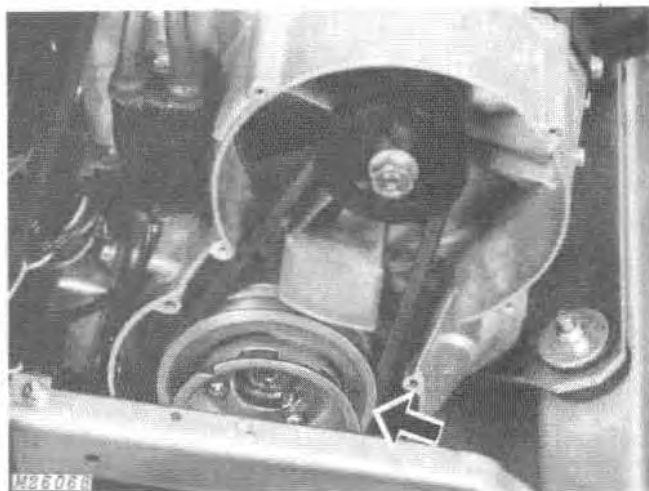

Fig. 12-Removing Starter Pulley and Fan Pulley
5. Remove starter pulley and fan belt pulley, Fig. 12.